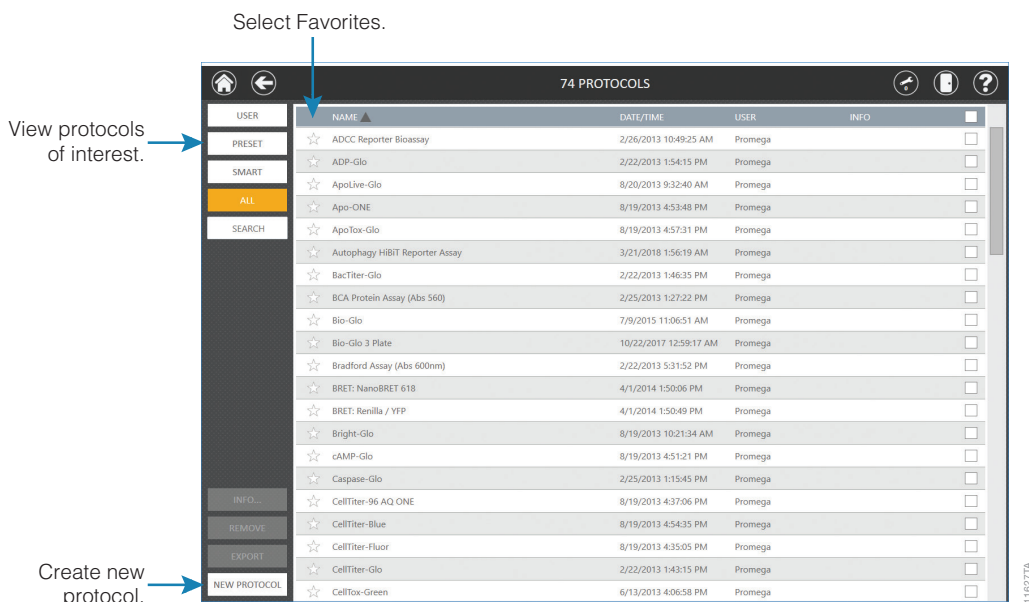

Figure 13. GloMax® Discover ‘Protocols’ screen.
1. To create a new protocol, from the 'Protocols' screen, tap the **New Protocol** button at the bottom of the screen (Figure 13). To edit an existing protocol, select a preset or user-defined protocol from the 'Protocols' screen (Home → Protocols).